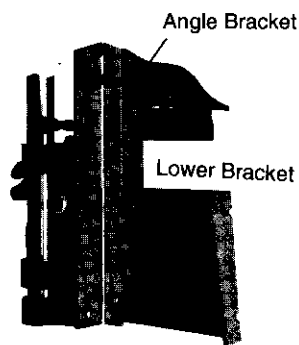

Figure 2
Use two 1/4-20 bolts, nuts, washers, and lock washers to mount the **LOWER BRACKET** to the machine as shown in Figure 2.
2. Remove the two hex nuts, lock washers, flat washers from the upright leg of the **Vertical Extrusion** at **Angle Bracket** in back. See Figure 2